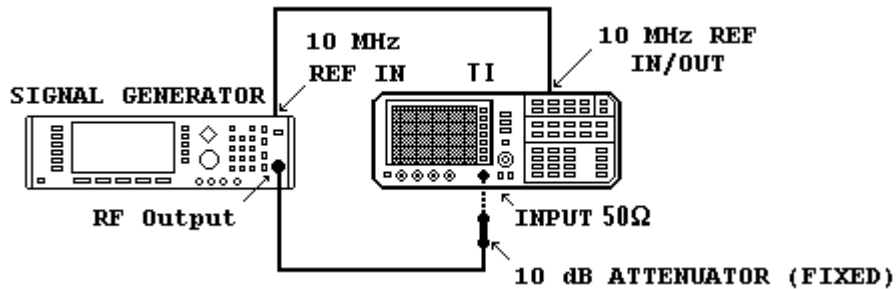

Figure 3. Input attenuator accuracy (18 GHz) - equipment setup.
- (25) Repeat (24) above for each remaining **IF GAIN CORRECTION** listed in table 6.
- (26) Connect equipment as shown in figure 3.